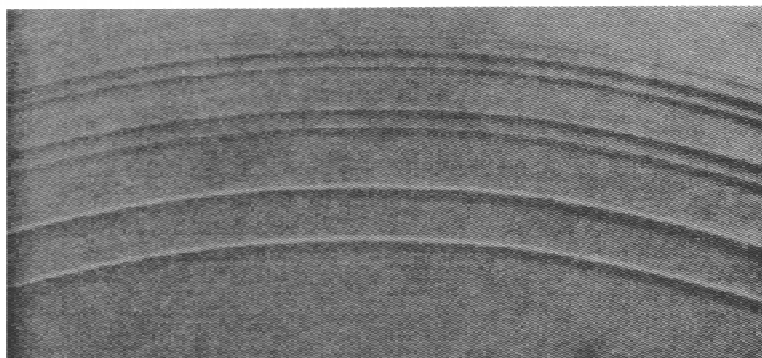

Figure 2-3.—Example of pack slip.
Pack slip happens when the tape is loosely wound on the reel and is exposed to excessive vibration or too much heat. This causes the tape to shift (side-to-side), causing *steps* in the tape pack. When a tape reel with pack slip is used, the magnetic tape will unwind unevenly and rub against the sides of the tape reel or the recorder's tape guides. This can damage the magnetic tape and cause oxide shedding. Figure 2-3 shows an example of pack slip.
- Q-24. *You notice steps in the tape pack such as those in figure 2-3. What causes this and how does it damage the magnetic tape?*